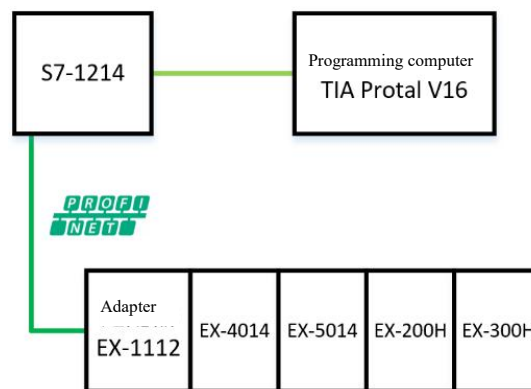

Figure 5-9-1 Communication connection diagram
1. Communication connection diagram, as shown in Figure 5-9-1.